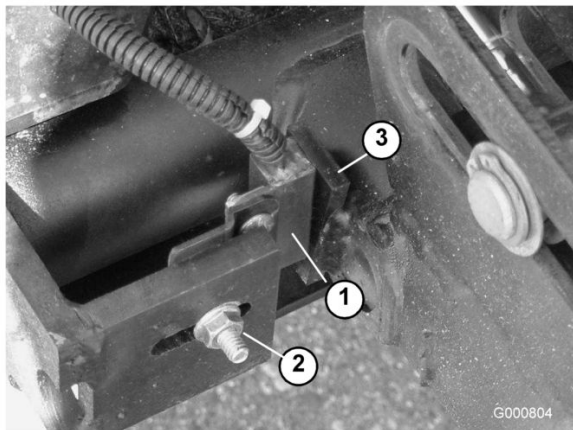

Figure 88
- Loosen the carriage bolt nut securing the lift arm switch bracket to the #4, 6 or 7 lift arms (Figure 88). #4 shown in figure.